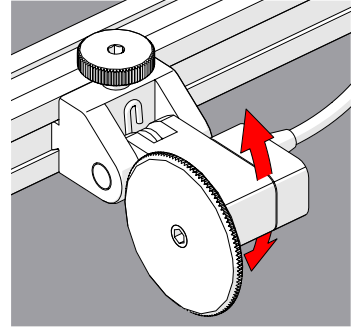

Fig. 77 - Place on scan surface
3. Spring tension maintains encoder contact with the scan surface (Fig. 77).